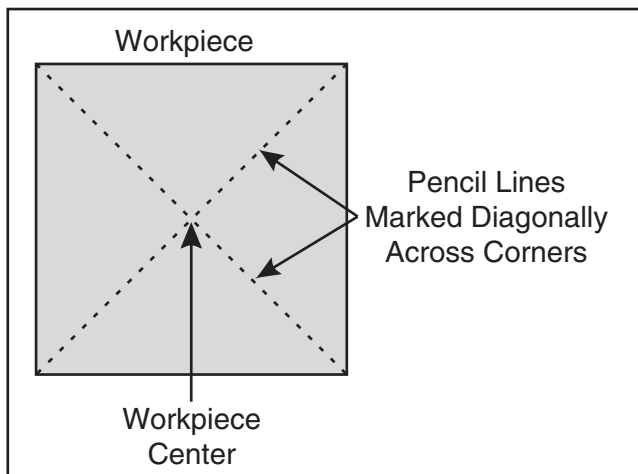

Figure 24. Workpiece marked diagonally from corner-to-corner to determine the center.
1. Mark both ends of your workpiece by drawing diagonal lines from corner to corner. The intersection point of these lines will show you the center of your workpiece. See **Figure 24** for details.